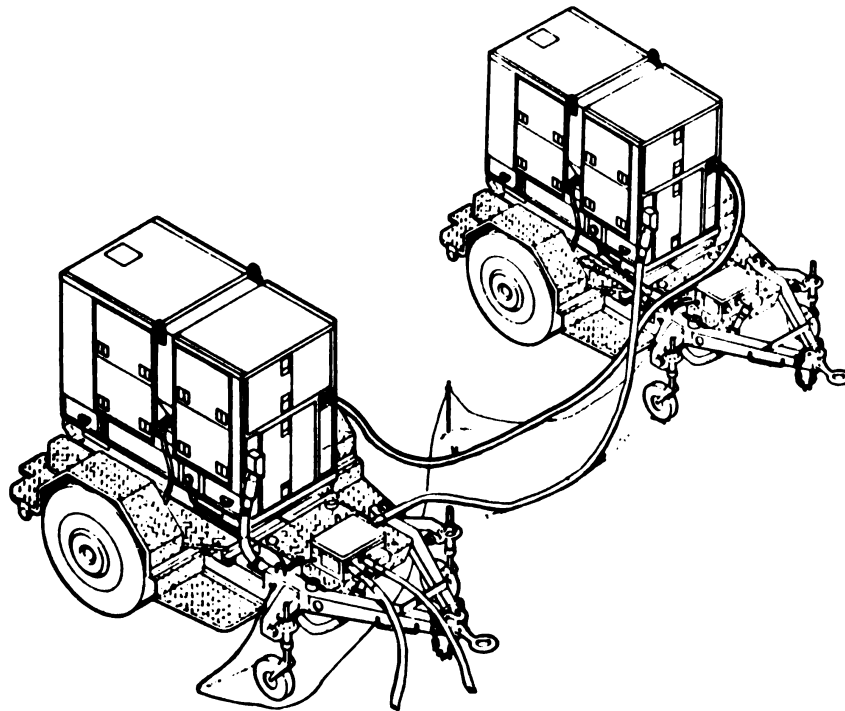

Figure 17-1. PU789/M Field Configuration
c. The field configuration PU789/M includes two interconnected power units as shown in Figure 17-1, PU789/M Field Configuration. The second unit is designated the standby unit.